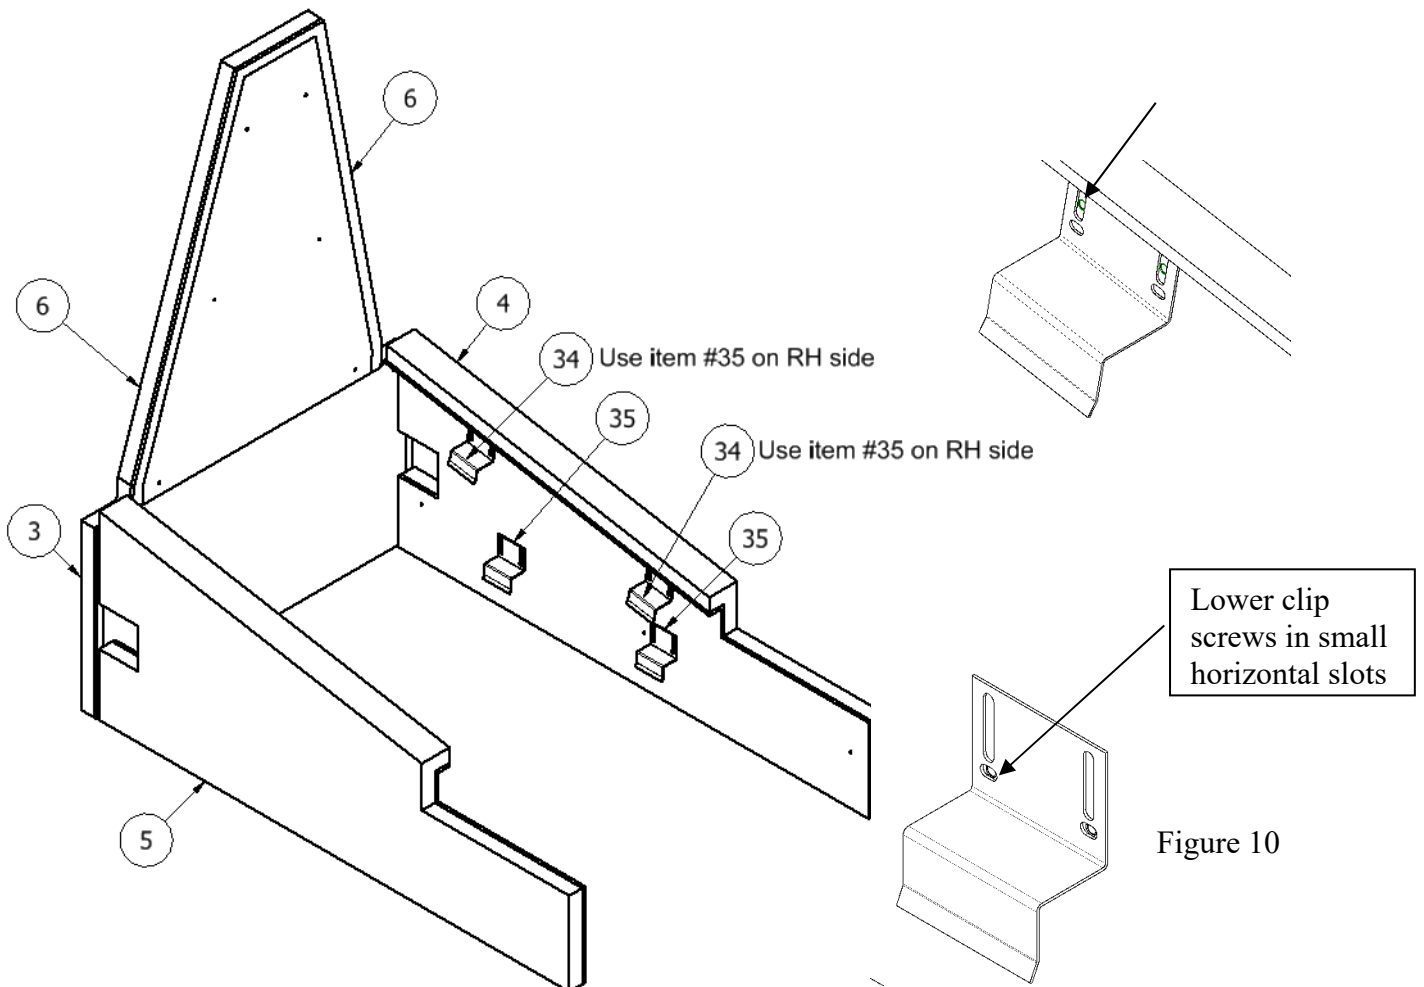

Figure 10
38. Install Pads Clips, item (34 & 35) to side pads as shown in figure 10 using ¼-20 screws and flat washers, item (36 & 30). Assemble hardware in small horizontal slot on lower clips and vertical slot on upper clips. Note that only the upper LH side uses a wider clip. **Do not over torque hardware.**